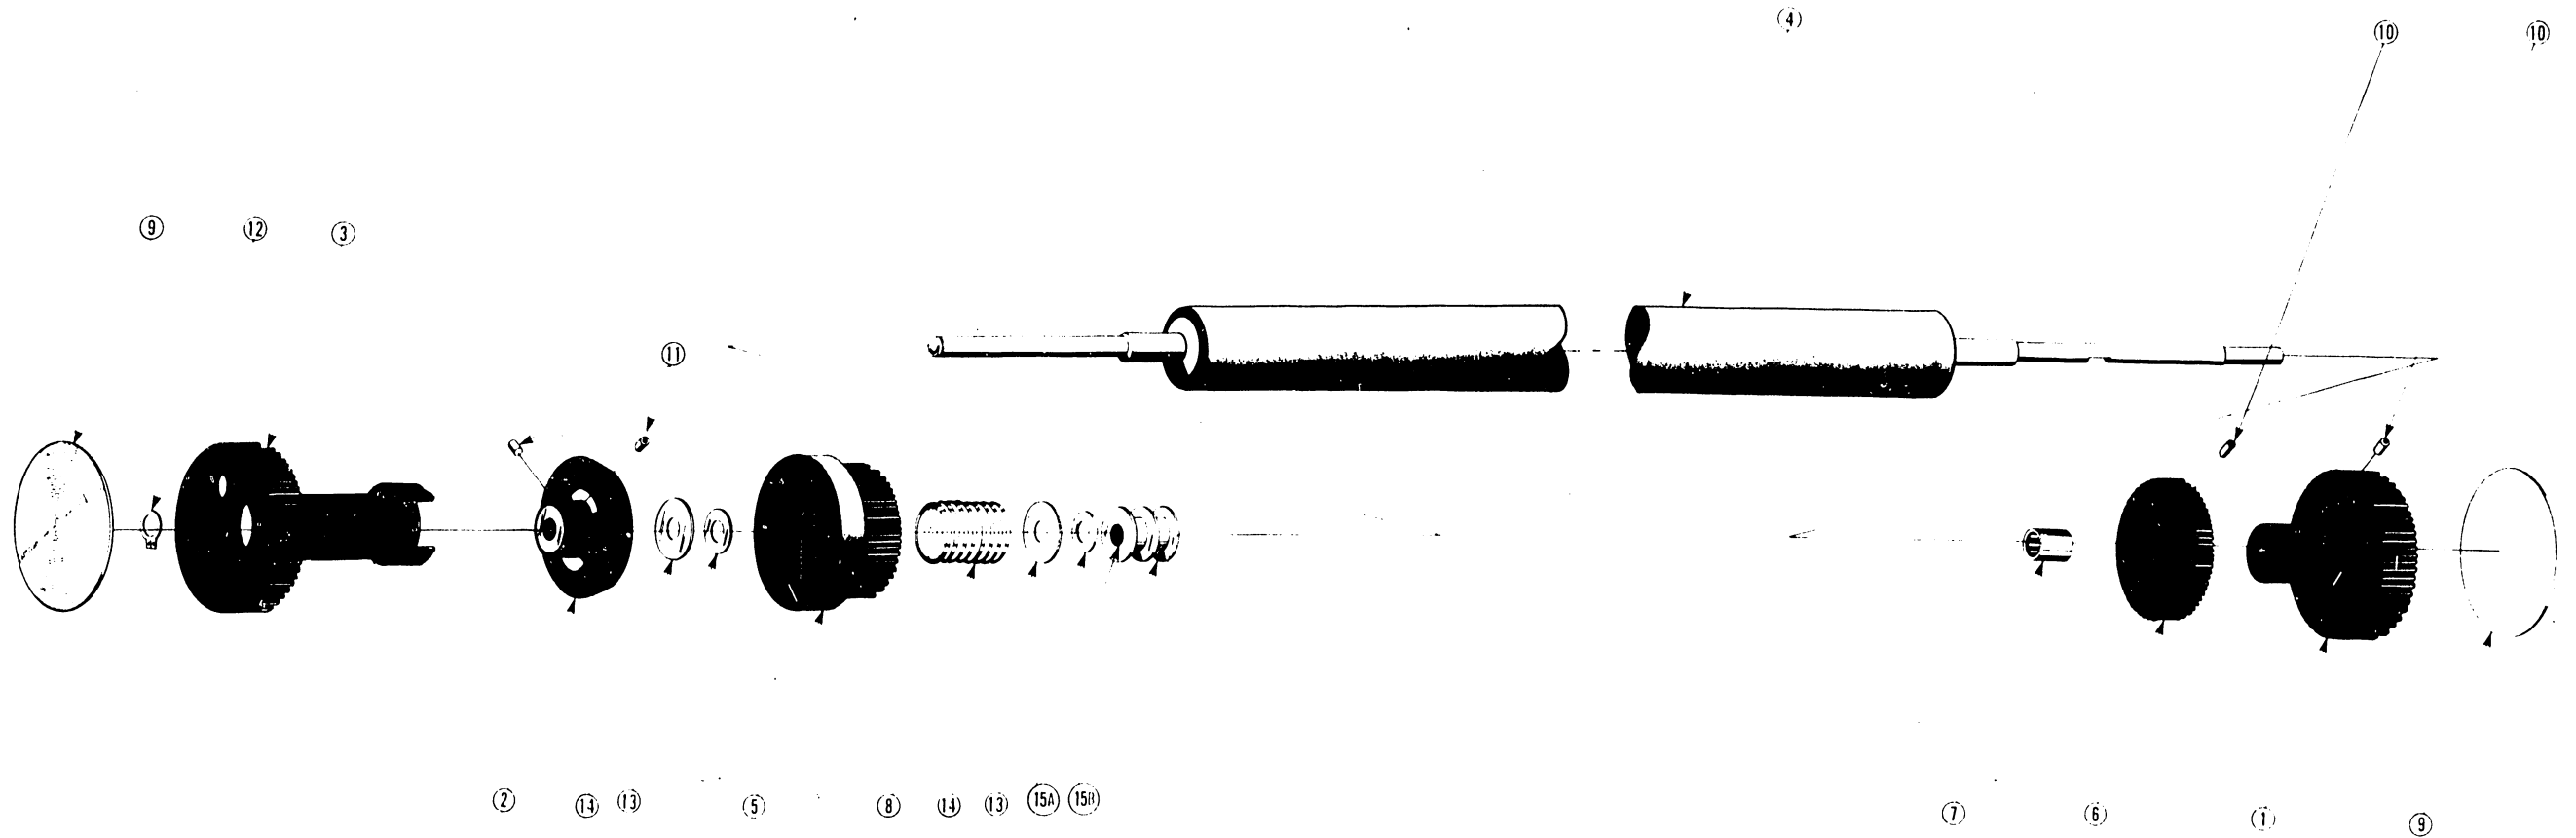

FIGURE 9-11 PLATEN ASSEMBLY
9.3.10 PLATEN ASSEMBLY 279-5120 (81W/41W) (SEE FIGURE 9-11)